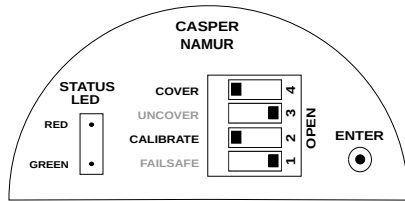

Figure 57: High Calibration Switch Position
- To start with the calibration, set the CALIBRATE & COVER switch to CLOSE (Opposite of OPEN for DIP switch) position as shown in Figure57.
- Set the CALIBRATE and COVER switch to CLOSE (Opposite of OPEN in a DIP switch) position as shown in Figure 57.